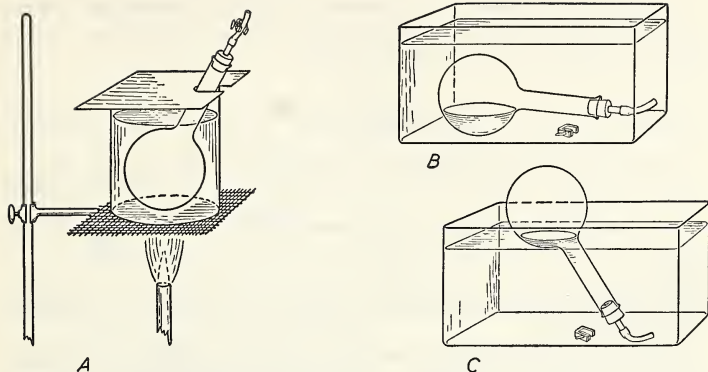

Fig. 51. Determining the coefficient of expansion (volumetric) of air at a particular temperature.
1. The apparatus (Fig. 51) consists of a clean, dry, 100 millilitre flask, a 200 millilitre beaker, thermometer, retort stand, gauze, burner, one-hole stopper, short pieces of glass and rubber tubing, clamp, and a sheet-metal cover with a semi-circular hole of suitable size to accommodate the neck of the flask.